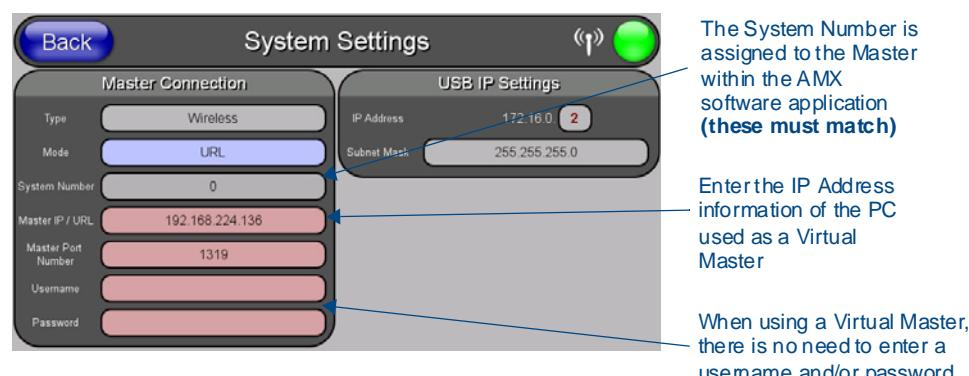

FIG. 38 Sample System Settings page (for Virtual Master communication)
13. Select **Protected Setup > System Settings** (located on the lower-left) to open the *System Settings* page (FIG. 38).